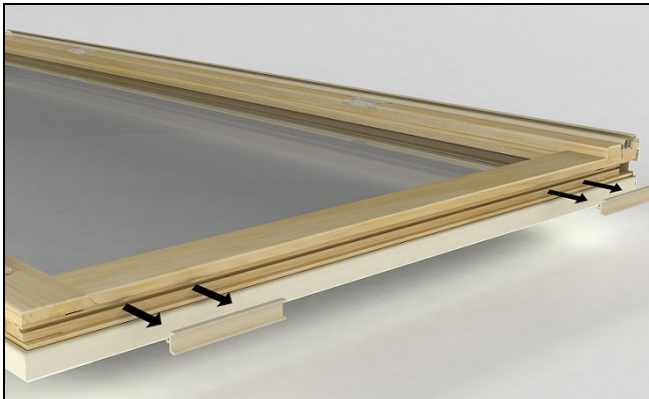

Figure 5
1. Lay sash on a flat surface. Remove the bottom rail glide blocks from the bottom rail. See Figure 5.